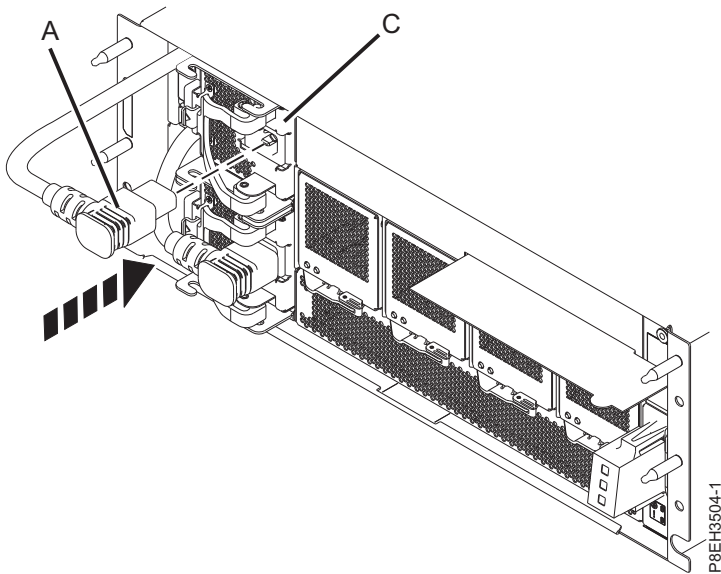

Figure 26. Connecting the power cord to the power supply in the EMX0 PCIe3 expansion drawer
21. Connect the power cord (A) to the power supply (C), as shown in Figure 26.